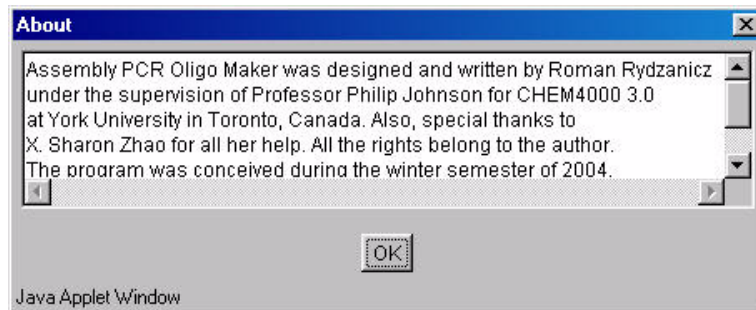

Figure 8. The About window.
- 1 Click **Help > About** to display the credits window, as shown in Figure 8.